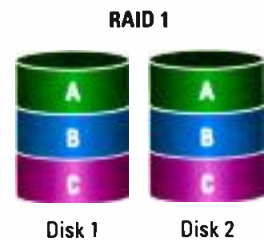

Figure 2. RAID 1 mirrors data across multiple disks, emphasizing redundancy over speed.
- **RAID 1.** RAID 1 takes the opposite approach to RAID 0 — redundancy, not speed. RAID 1 doesn't stripe the data across disks, but creates complete mirrored copies on separate disks. If one disk fails, the other disk takes over. It is useful for applications where redundancy is paramount, and a single disk, perhaps supplemented by a cache, can write fast enough. Read speeds, however, are faster than a single disk since both disks can read simultaneously. (See Figure 2.)